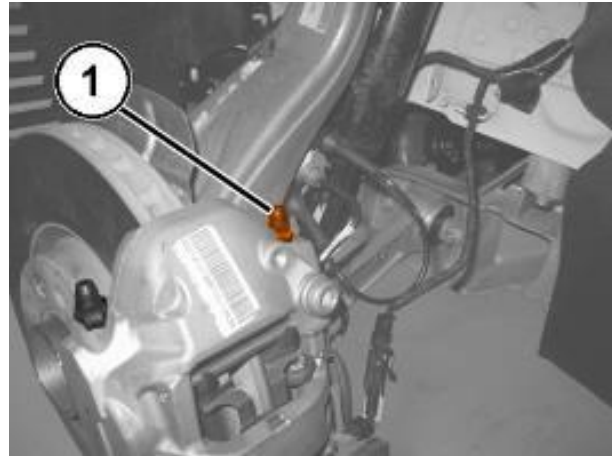

Figure 76 – Brake Bleeder Valve
116. Working at the right front caliper, position the brake fluid recovery hose to the INNER bleeder screw (1) and to the recovery container. Open the INNER bleeder screw (1) and without applying any pedal pressure on the system, allow a small amount of brake fluid to drain into the recovery container. Then tighten the bleeder screw and remove the recovery hose (Figure 76).
120. Working at the left front caliper, position the brake fluid recovery hose to the INNER bleeder screw (1) and to the recovery container. Open the bleeder screw and slowly press the brake pedal down fully three or more times, until there are no more air bubbles in the recovery hose. Then tighten the bleed valve to the prescribed torque of 10 N·m (89 In. lbs.) (Figure 76).